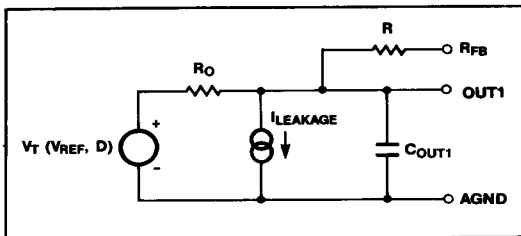

Figure 2. AD7548 Equivalent Analog Output Circuit
Figure 2 shows the equivalent circuits for the AD7548 analog section. The $I_{LEAKAGE}$ current sources represent junction and surface leakage currents. The equivalent output resistor of the DAC is R_o , which varies with digital input code from $0.8R$ to $2R$ (infinite at zero code), where R is typically 11k Ω . Capacitor C_{OUT1} represents the capacitances of the switches used in the R-2R ladder. When inputs are switched from low to high, the capacitance at OUT1 changes from about 40pF to 100pF. This capacitance is code-dependent and is a function of the number of ON switches that are connected to the output. $V_T(V_{REF}, D)$ is the equivalent voltage source controlled by V_{REF} and the digital input code (D).